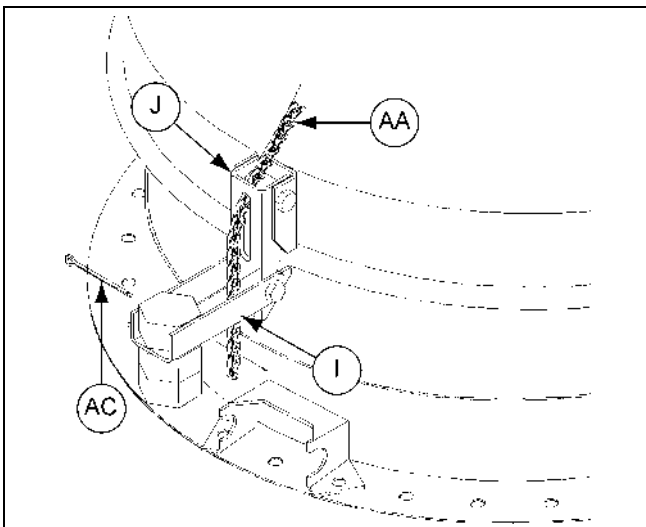

Figure 10N Routing the Chain Through the Lever Arm
- Make sure the lid is fully closed and route the chain (AA) through the hole at the end of the control arm (A), the peak cap latch (J), and then the counterweight bracket (I). Secure with a cotter pin (AC). (See Figure 10N.)